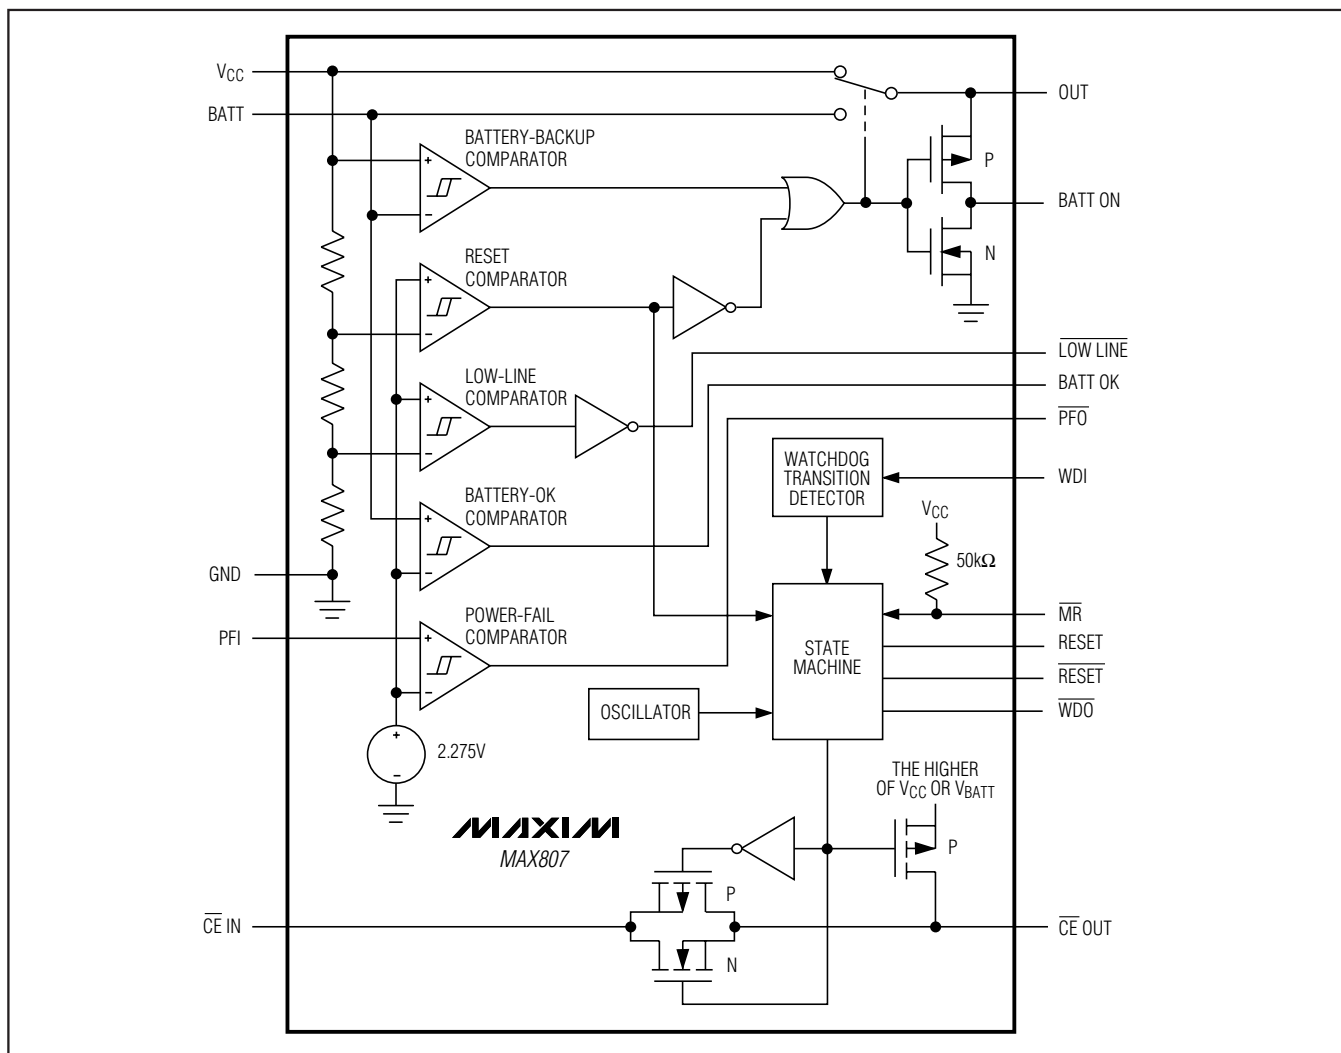

Figure 1. Block Diagram
The MAX807 μP supervisory circuit provides power-supply monitoring, backup-battery switchover, and program execution watchdog functions in μP systems (Figure 1). Use of BiCMOS technology results in an improved 1.5% reset-threshold precision, while keeping supply currents typically below $70\mu\text{A}$. The MAX807 is intended for battery-powered applications that require high reset-threshold precision, allowing a wide power-supply operating range while preventing the system from operating below its specified voltage range.
The MAX807 provides internal gating of chip-enable (CE) signals to prevent erroneous data from corrupting the CMOS RAM in the event of a power failure. During normal operation, the CE gate is enabled and passes all CE transitions. When reset is asserted, this path becomes disabled, preventing erroneous data from corrupting the CMOS RAM. The MAX807 uses a series transmission gate from the Chip-Enable Input (CE IN) to the Chip-Enable Output (CE OUT) (Figure 1).